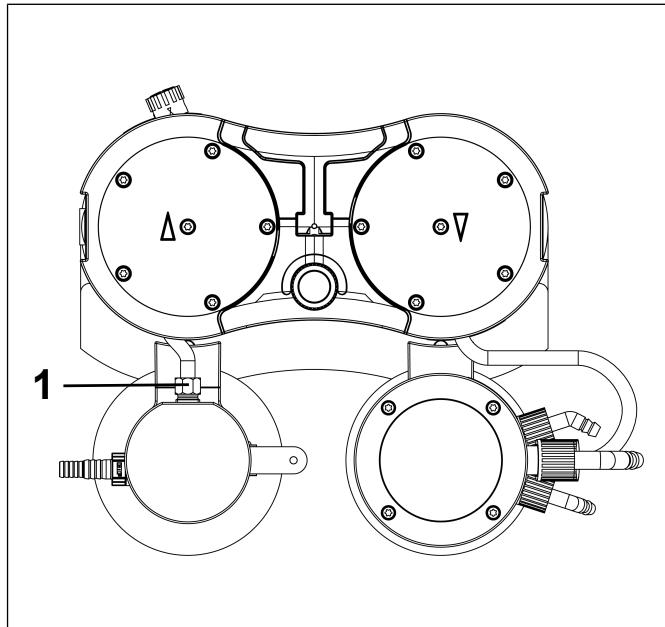

Fig. 10: Loosen hose connection
1. Loosen the union screw of the hose connection (1/Fig. 10) from the vacuum system component.
**i** If necessary, use a size 14 open-end wrench to loosen the union screw of the separator hose connection (1/Fig. 10).
10. Screw in the union screw of the separator hose connection (1/Fig. 10) on the inlet separator as far as it will go.
**i** If necessary, use a size 14 open-end wrench to tighten the union screw of the separator hose connection (1/Fig. 10)